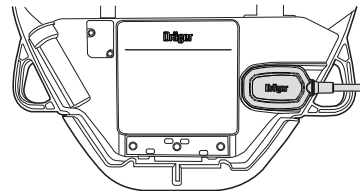

Fig. 43 Connecting a clip charger
2. Connect the clip connector to the charging port (Fig. 43).